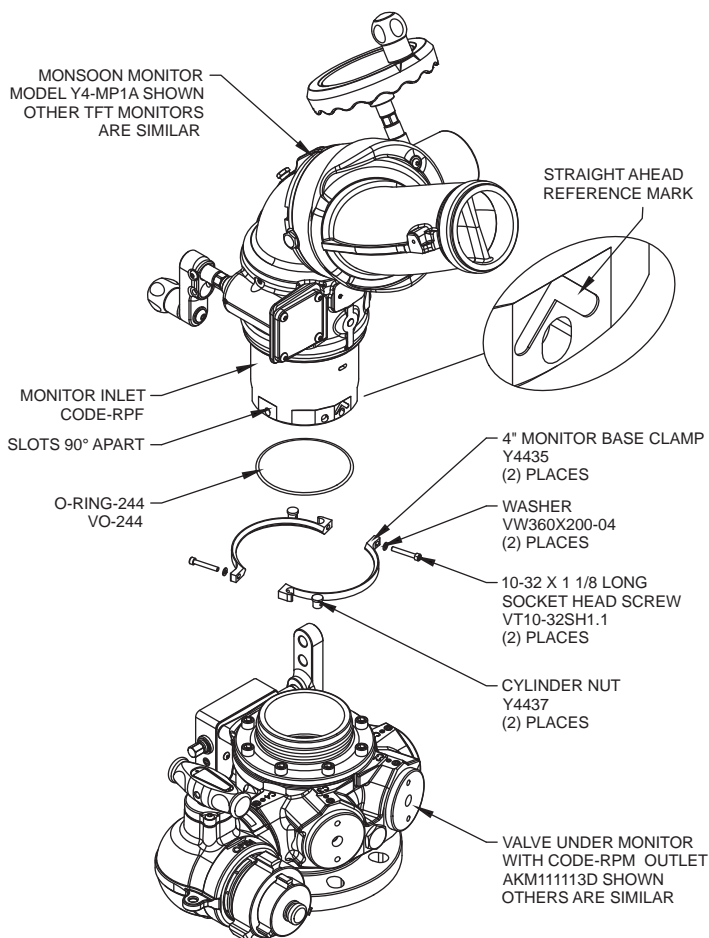

Figure 4.3d
## TWO PIECE CLAMP ROTATIONAL LOCK INSTRUCTIONS (without tapped holes, refer to figure 4.3d):
1. Apply blue Loctite to threads of (2) Cylinder Nuts. Assemble Monitor Base Clamp as shown in figure 4.3d and place loosely over Side B Outlet adapter in an orientation that will allow access to the screw heads of the Clamp. Screw monitor onto VUM until threaded joint bottoms out.